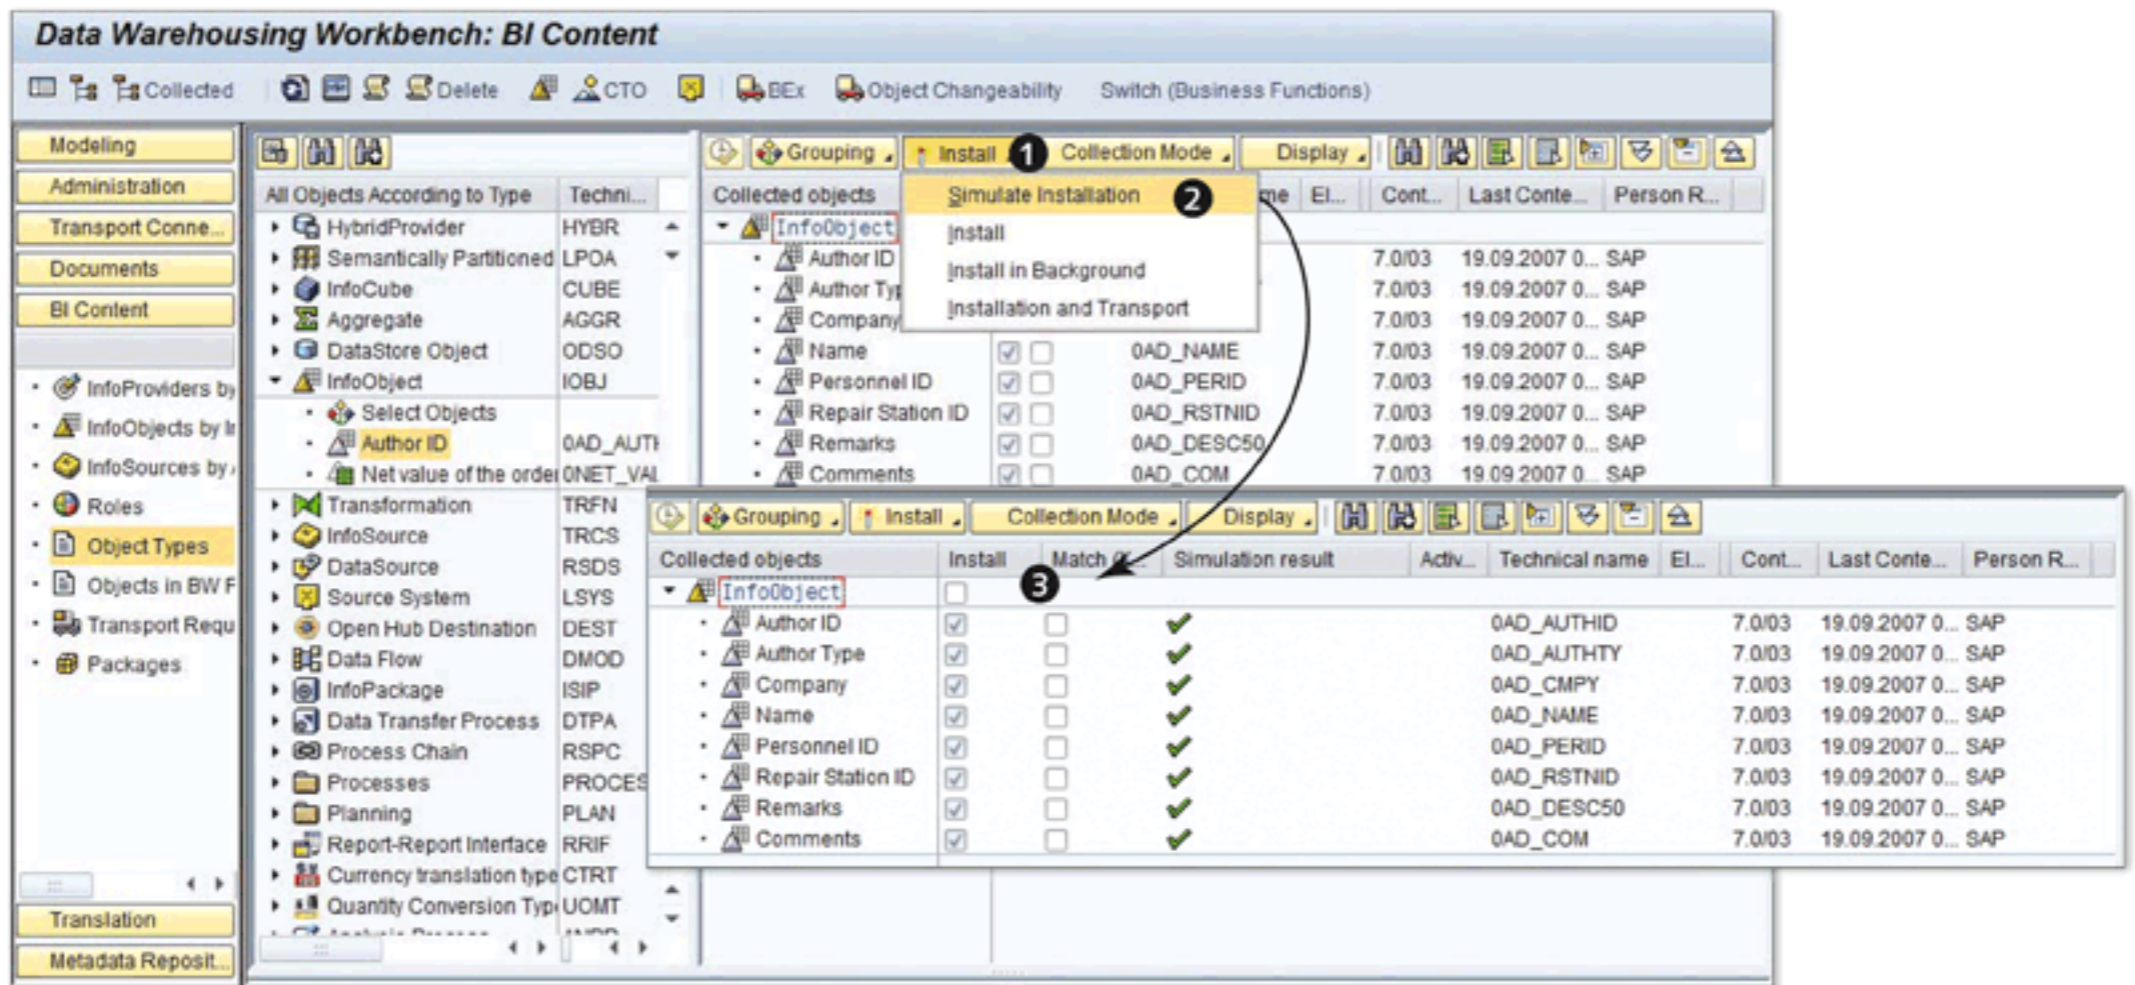

Figure 2.30 Simulating Activation
Now select the INSTALL dropdown menu, as shown in ① of Figure 2.30. Click on SIMULATE INSTALLATION (②). Selecting this option simulates the installation of the selected objects and shows the simulation result (③). The OK icon () shows that the simulation result is positive and that there won't be any errors when actually activating the selected objects in the system.